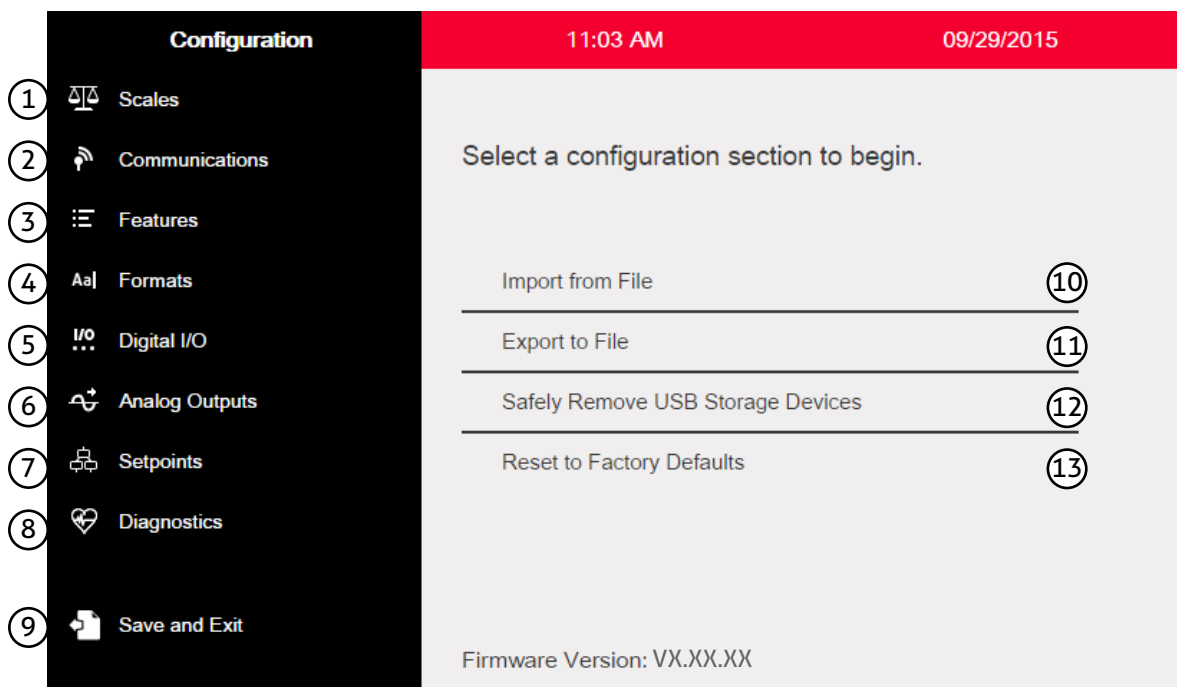

Figure 3-4. Configuration Menu
3. Access to the Configuration menu may be restricted with a password. If prompted, enter the password, then press . The Configuration menu will display. See Figure 3-4 on page 48.
- Access to the Configuration menu may be restricted with a password. If prompted, enter the password, then press **DONE**. The Configuration menu will display, see Figure 3-4 on page 48.